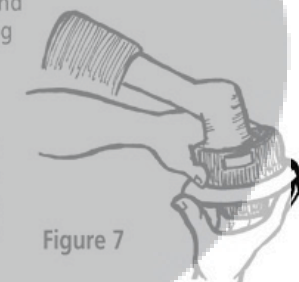

Figure 7
- Re-install head cap by aligning locking tabs with their notches and pushing cap down until both locking tabs are securely seated (Figure 7).